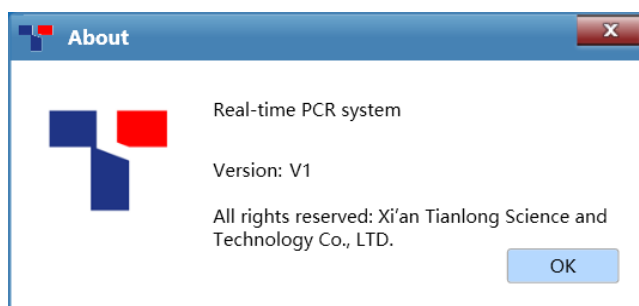

Figure D-3.7 Help submenu - About interface
3. **About:** display the application software version and copyright information, as shown in figure D-3.7.